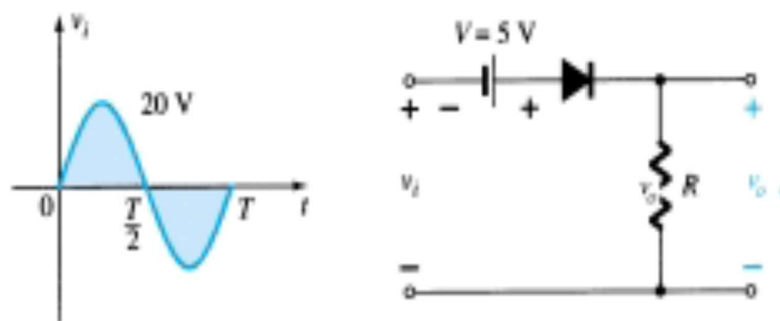

Fig:28
Q.2 Determine the output waveform for the given network in Fig. 28.